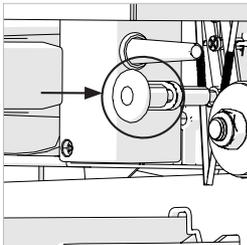

Fig. 17
- Lower the Cutting Head to the fully down position, 'capturing' the Lower Auxiliary Blade Guard. Push the Cutting Head Latching Pin into its socket. (Fig. 17)